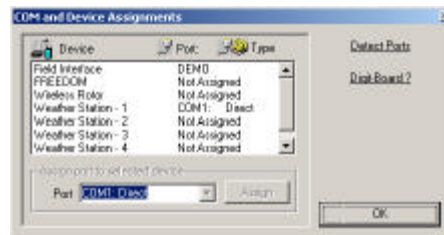

Figure 5 Test and Set Port
11. Assign port by clicking on **Test and Set Port** (see Figure 5)